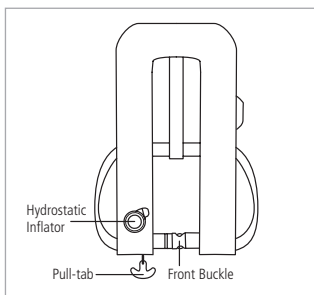

FIGURE 30 CORRECT
- 10) Ensure the pull-tab is on the outside of the folded life jacket. Fig. 30 depicts a correctly folded life jacket.